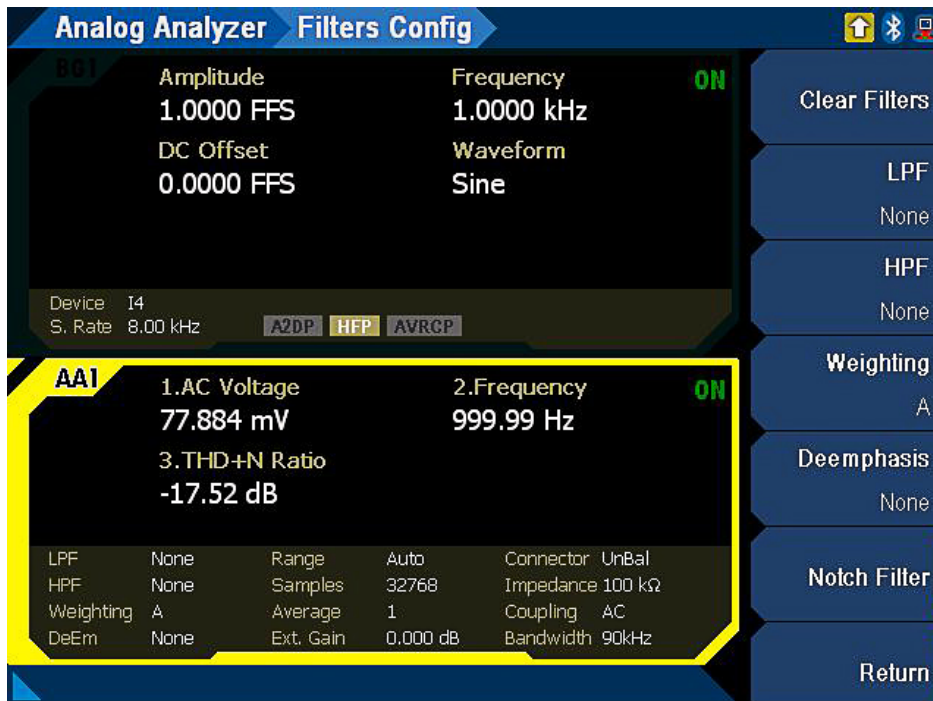

Figure 8. THD+N measurement setting and result
4. Press **[On/Off]** on the front panel to start the THD+N Ratio measurement. The measurement results are shown in Figure 8. The THD+N Ratio is -17.52 dB. Note the AC Voltage is 77.884 mV and the Frequency is 999.99 Hz. This proves you are testing the correct signal because you set the generator to generate a 1 kHz signal.
The analyzer displays two screens: the signal generator settings on the upper screen and the test results on the lower screen. As shown in Figure 8, the AC Voltage, Frequency and THD+N Ratio test results show up on the lower screen. The Frequency and AC Voltage measurements help you verify that you are testing the correct signal. Compare the generator's 1 kHz signal with the analyzer's 999.99 Hz displayed on the lower screen. If the frequency displayed on the lower screen is unreasonable, you may be testing the wrong signal or no signal is coming back from the DUT.